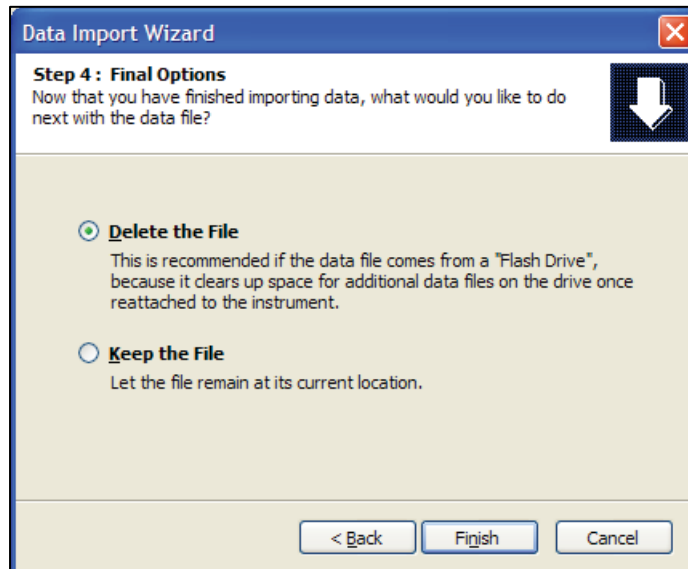

Figure 10-21 Data Import Step 4
Step 4 of the process requires the user to choose whether to delete the file from which the data was imported or to keep it on the drive (Figure 10-21).